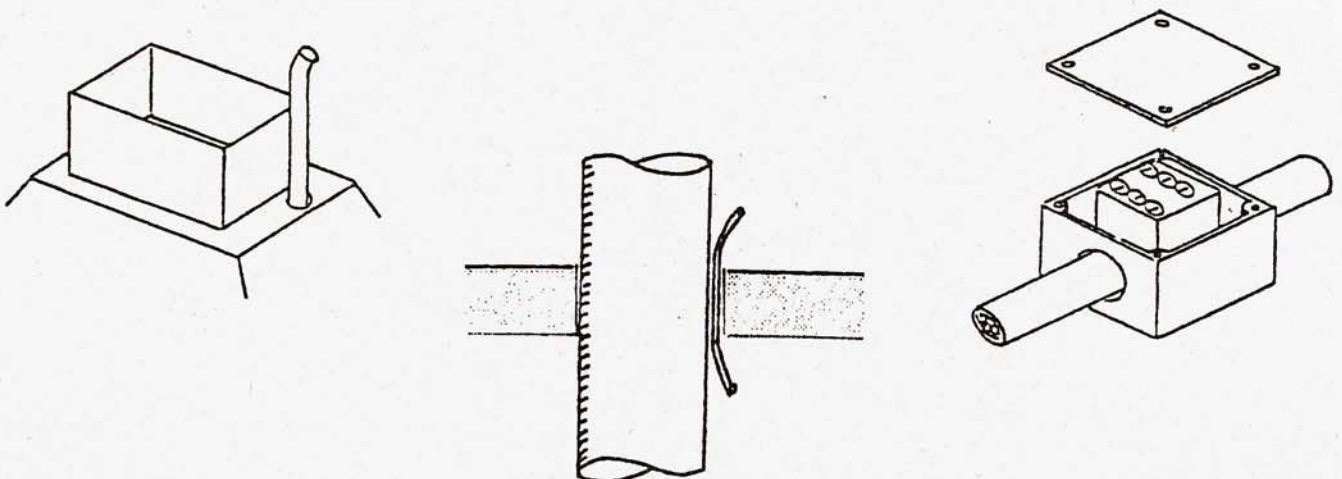

Fig. 11
- The exterior connections should be made using «Plexo» type connectors. Fig. 11.